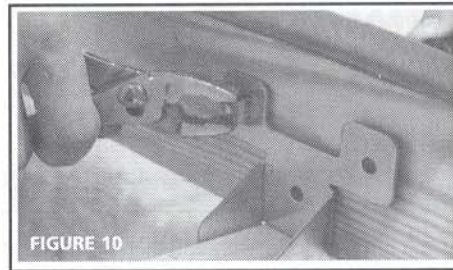

FIGURE 10
4 With hardware provided, mount saddle brackets (2) to inside of fan frame in pre-drilled holes (Figure 10). Loosen set screw and remove blade from motor shaft. Set aside so as not to be damaged. Cut out shutter opening marked on ceiling. Pass fan into attic through ceiling cut-out. Set fan on joist. Saddle brackets will center fan along joist.